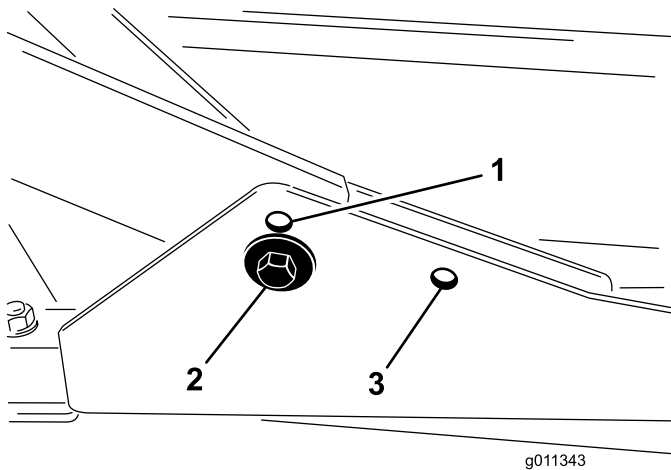

Figure 7
1. For heights of cut between 2.0 to 7.6 cm (0.75 to 3 inches), mount the front carrier frames in the lower front mounting holes (Figure 7).
2. For heights of cut between 6.3 to 10 cm (2.5 to 4 inches), mount the front carrier frames in the upper front mounting holes (Figure 7).
For all heights of cut, mount the rear cutting deck in the rear-mounting holes (Figure 7).